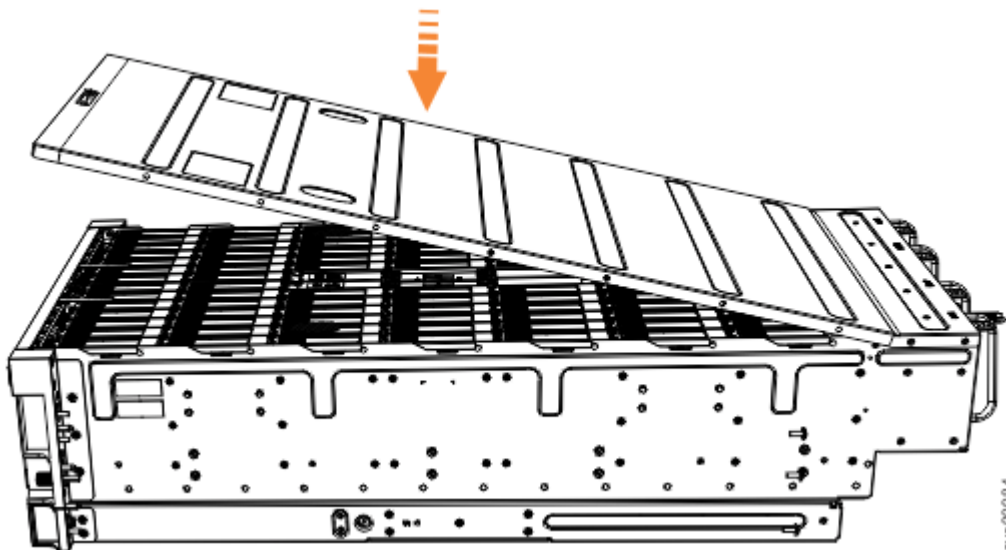

Figure 67. Aligning the 2076-92F top cover
1. Carefully lower the cover and ensure that it is aligned correctly with the back of the enclosure, as shown in Figure 67 on page 61.